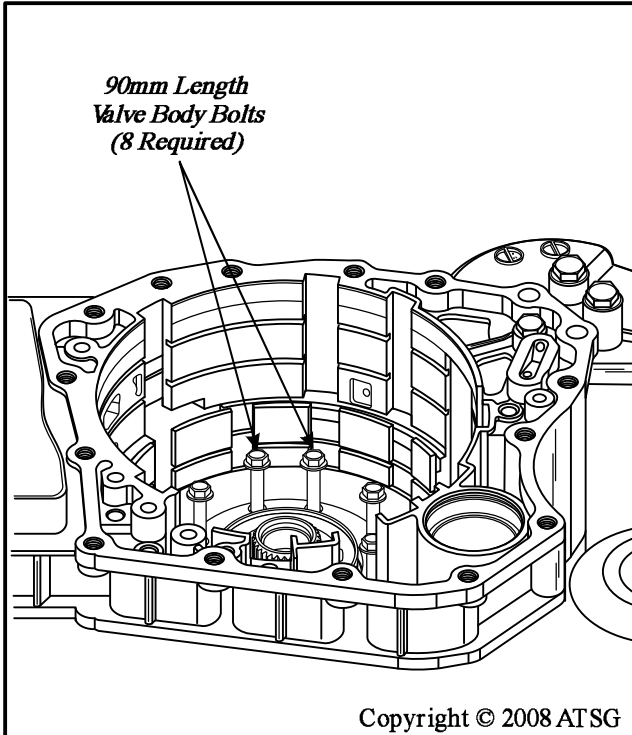

Figure 75
24. Install transfer gear "A" assembly, using eight of the 90mm length valve body to case bolts, as shown in Figure 75.